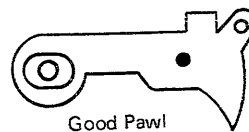

Figure 1-6. Escapement Pawl
3.13 Figure 1-6 illustrates a worn escapement pawl, which should be replaced immediately.
- A worn escapement pawl (Figure 1-6).